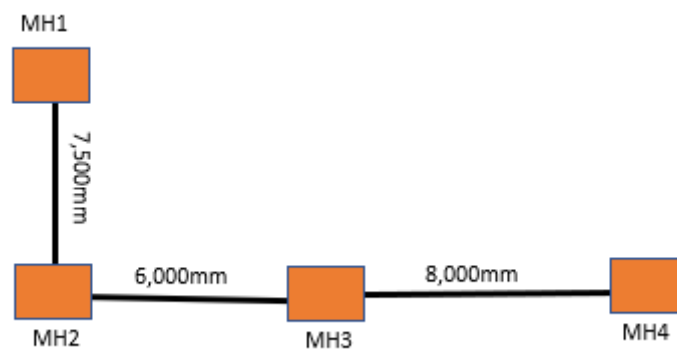

Figure 4b / Rajah 4b
- (b) Figure 4b shows Manhole 1 (MH1), which has dimensions of 750 mm x 600 mm and its depth is 900 mm. The size of the pipe (sewer) used is 225 mm. Interpret the depth and determine the size of manholes 2,3 and 4 by referring to Figure 4b, Tables 6 and 7.